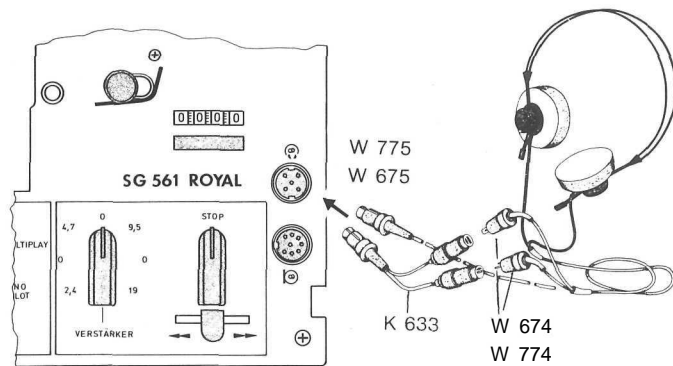

Fig. 5
2.2 Headphones Output \odot (Fig. 5)